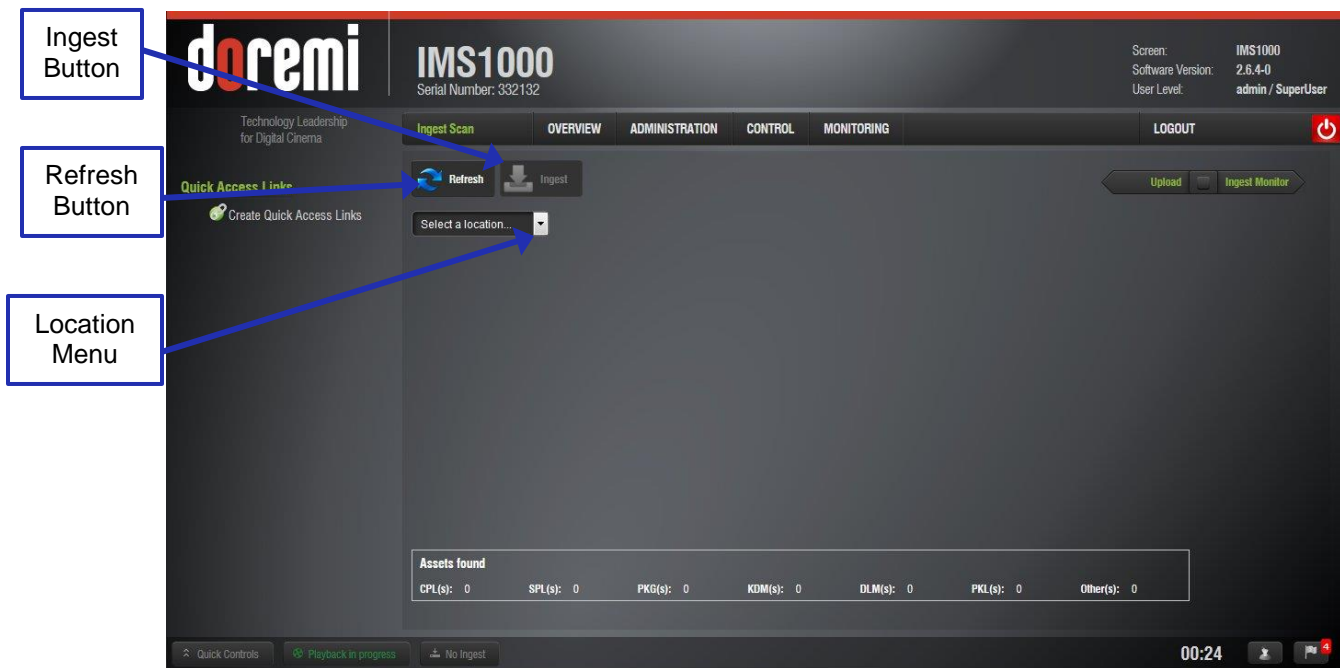

Figure 276: Ingest Scan
The Ingest Manager GUI (Figure 276) can be accessed by going to Control → Ingest Manager. It will only show items that can be supported by the IMS1000. Text, documents, pictures, power-point presentations, etc. will not appear.
From the drop-down window, select Local Storage and hit the Refresh button (Figure 276).
- Click on the Ingest button (Figure 276). The ingest process will begin.
- Click on the drop-down menu from the Location menu (Figure 276).
- Select the item to ingest and click the Ingest button (Figure 276).